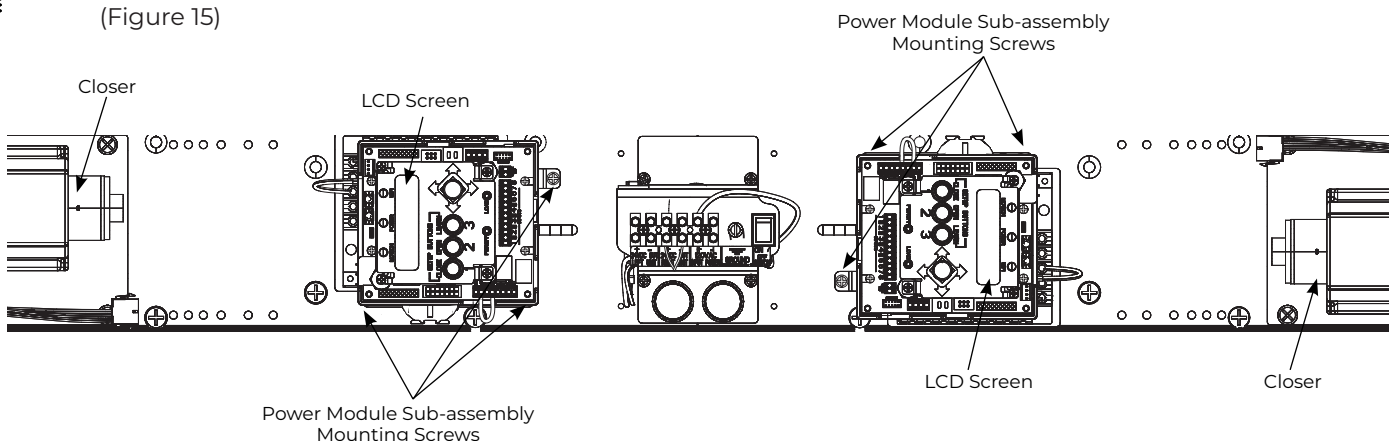

Figure 15 Wiring Removed From View
1. Using three (3) #8-32 x 5/16" Phillips screws per assembly, secure power module sub-assemblies to backplate at location marked on backplates. (Figure 15)
- NOTE:** NOTE: Orient assemblies so LCD screens on inverters are toward corresponding closer assemblies. (Figure 15)